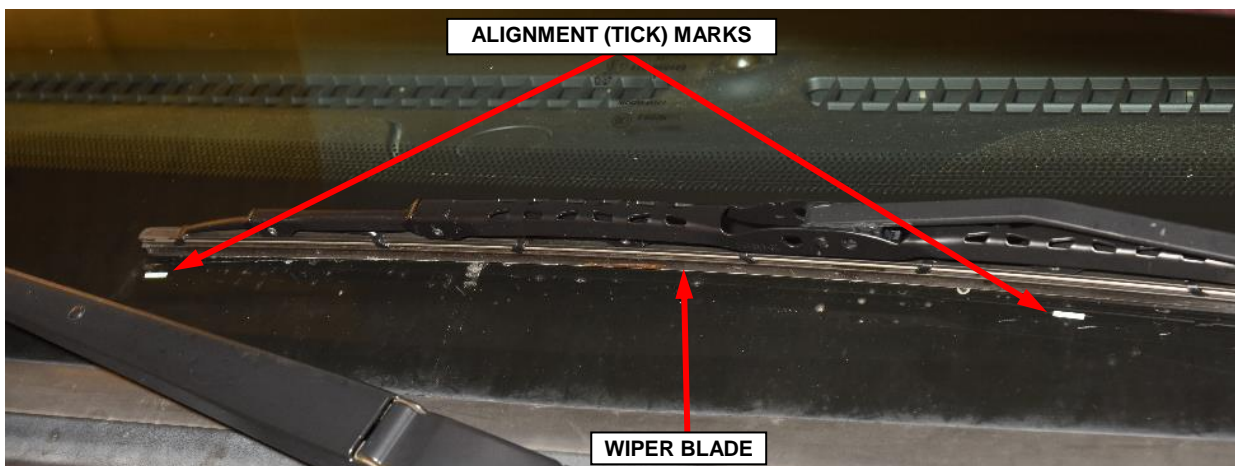

Figure 35 – Wiper Blade Alignment
9. The front wiper arms must be indexed to the pivot shafts with the front wiper motor in the park position to be properly installed. Position the wiper arm pivot end onto the wiper pivot shaft so that the lower edge of the blade is aligned with the wiper alignment lines, which are horizontal (tick) marks concealed in the upper margin of the lower windshield blackout area (Figure 35).